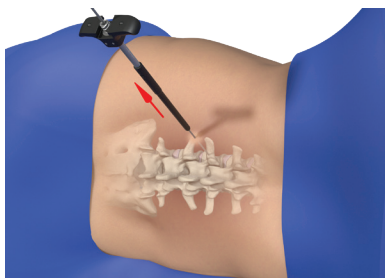

Figure 12
- Remove the lower portion of the targeting needle, taking care that the guidewire maintains purchase in the vertebra (Figure 12). For the "floor side" pedicles, care should be taken during the MIS fixation procedure to ensure that surgical instruments do not fall onto the floor.